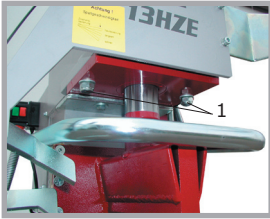

Fig. 1
Make sure to secure the hydraulic ram to the beam, before you start-up the splitter. The ram has an hydraulic cylinder with a flange that must be secured on the respective upper plate of the beam using the special fixation bolts. When doing this mind for the nuts (1) that must be removed before bolting. (fig. 1)
Called by the safety bar, (see Figure 1, point 2), it is possible that one without a second person the splitter or vice versa brings the transport position into the working position.